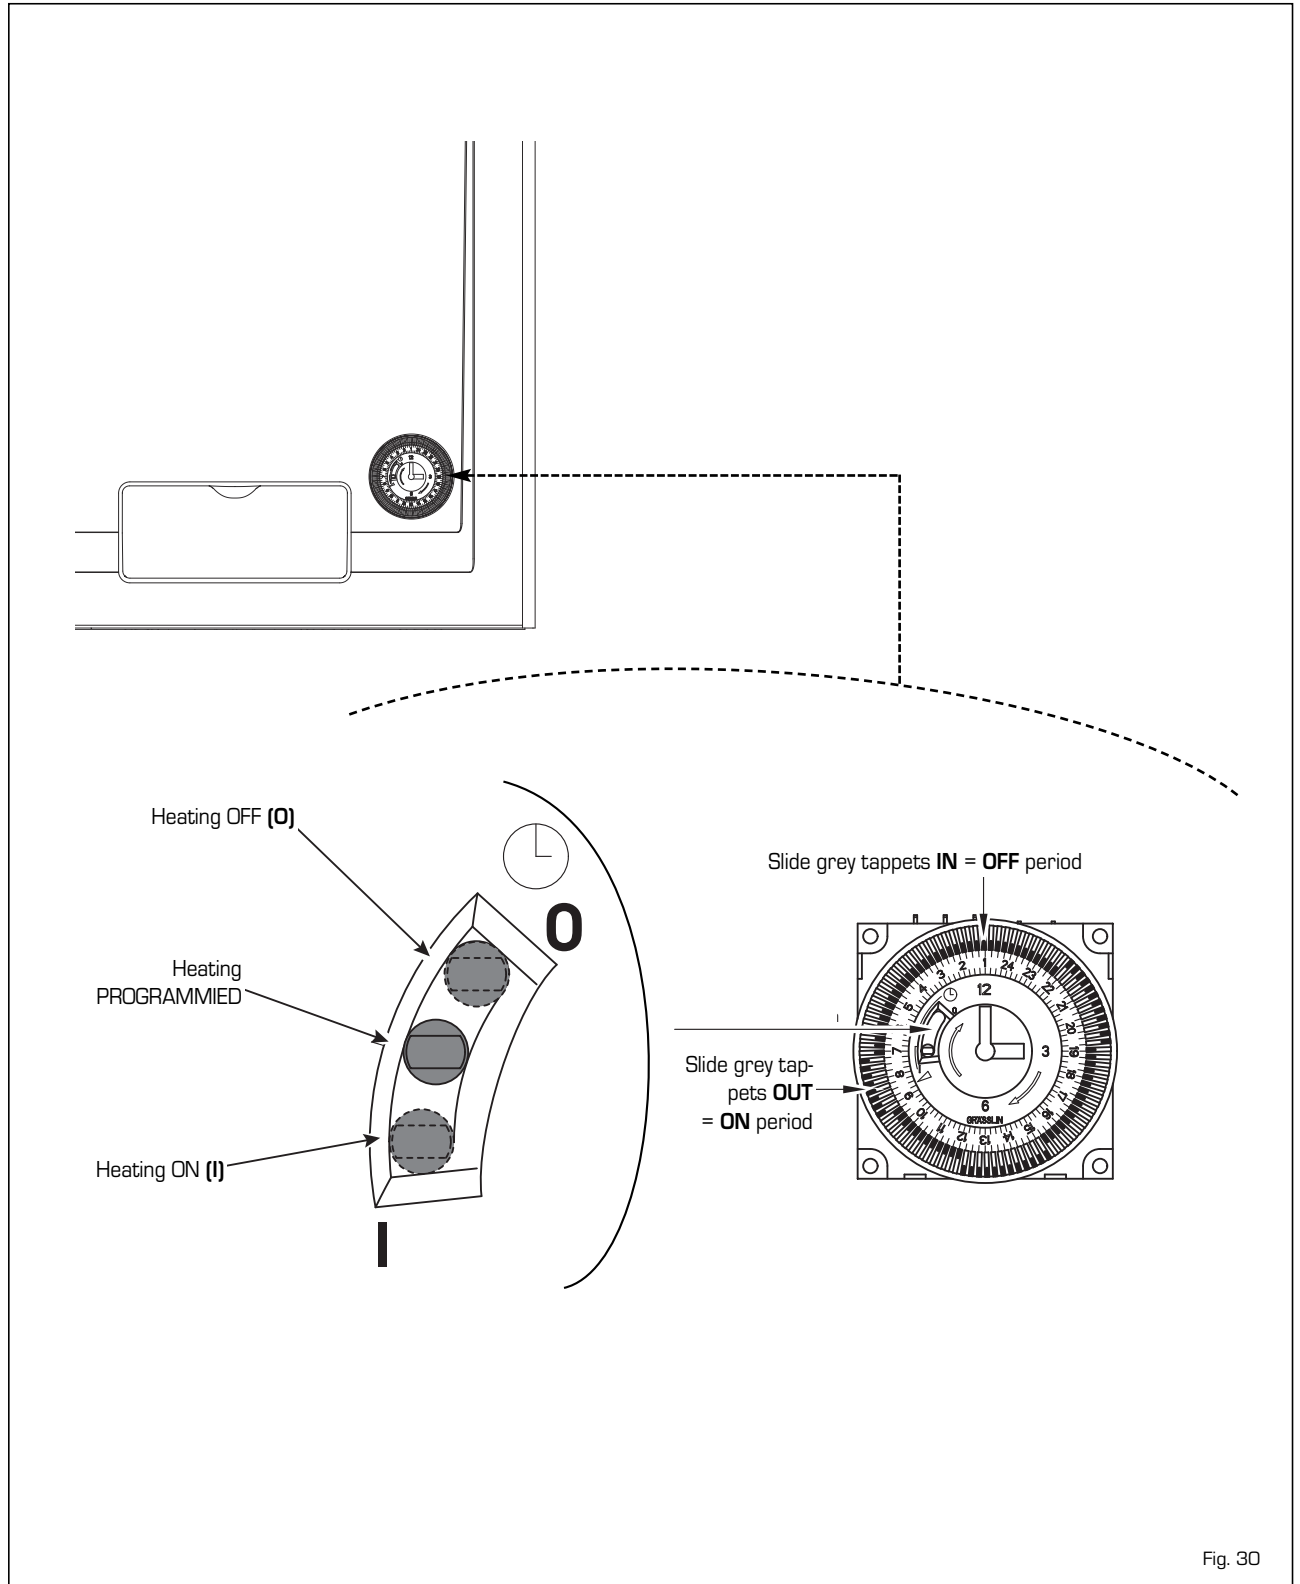

Fig. 30
2.0 INSTRUCTIONS FOR PROGRAMMING MECHANICAL TIME CLOCK (Fig. 30)